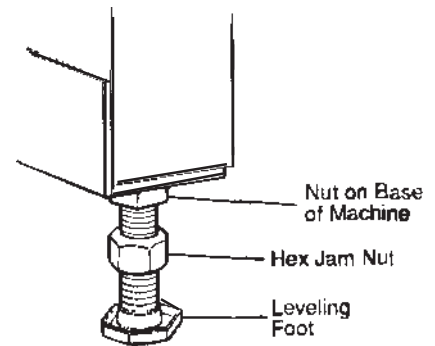

FIG. 2
2. The Grinder's four leveling feet (FIG. 2) are seated in countersunk holes in the pallet. Lift one end of the machine until both feet are out of their holes.
Recheck the level in both directions. When satisfactory, tighten the hex jam nuts on the leveling feet securely against the nuts welded to the bottom of the base. See FIG. 2. Don't turn the leveling feet when tightening.